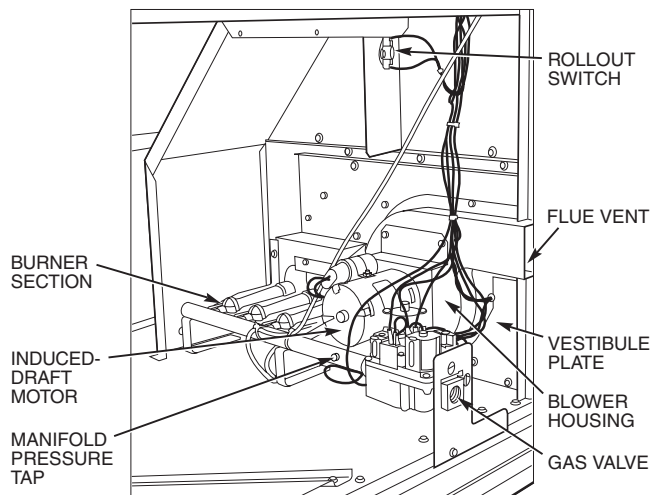

Fig. 58 — Burner Section Details
2. Remove the 6 screws that attach induced-draft motor housing to vestibule plate (Fig. 58).
A. Removal and Replacement of Gas Train (See Fig. 58)